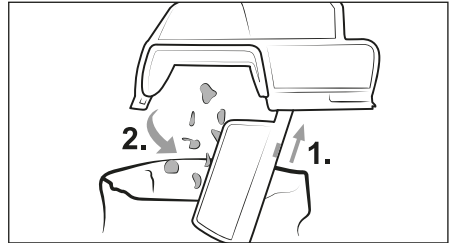

Fig. 15
- 2) Hold the dust container **7** over a waste bin and push the dust container lid release button **9** upwards. The dust container lid **8** will open and the contents will be emptied into the waste bin (see Fig. 15). Then close the dust container lid **8**.